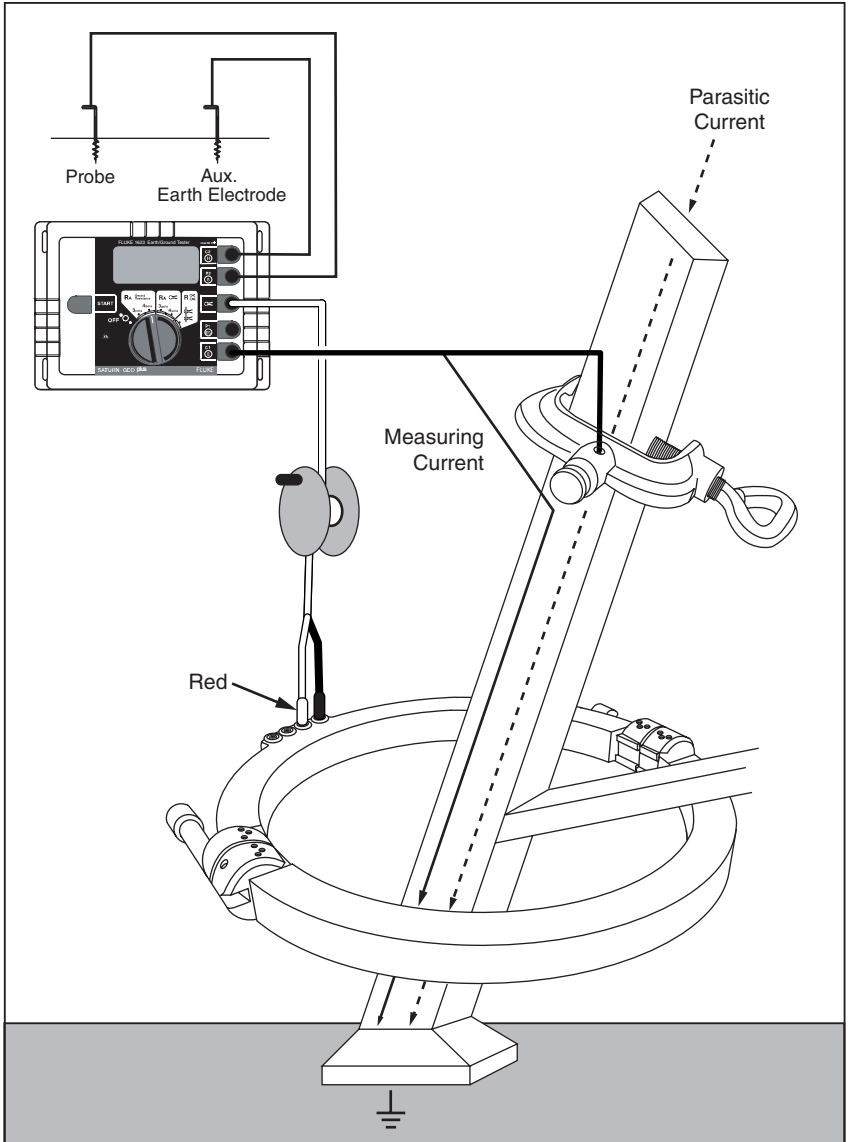

Figure 4. Test Measurement Setup
1. Install the contact clamp to the pylon and tighten the clamp fastener. The contact clamp can now be used as the connection point for the Tester's earth ground electrode test lead. See Figure 4.
2. Install a test lead from the Tester's earth ground electrode jack to the contact clamp. Plug the test lead into the bore hole in the clamp and tighten the tightening screw. See Figure 4.